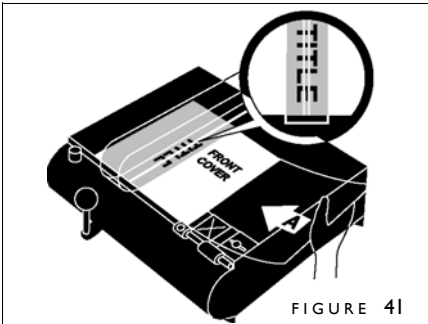

FIGURE 41
3. Slide your cover under the transparent bar until your title is centered between the two silver lines (figure 41). The bottom of your cover must rest against the Left Stop and the Guide Rail. Push the Lever to the right to clamp your cover in place.